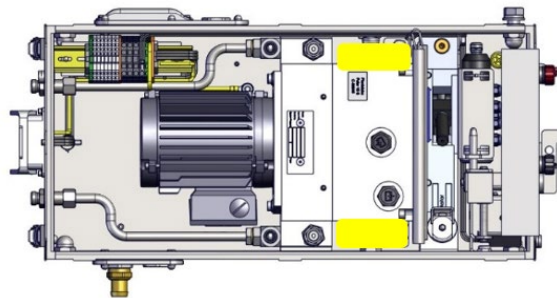

Figure 4 – Position of drying bags in Power-pack (shown in yellow)
- 4.15 Install new drying bags and close the main lid and fit the padlocks. The position of the drying bags is shown in Figure 4.